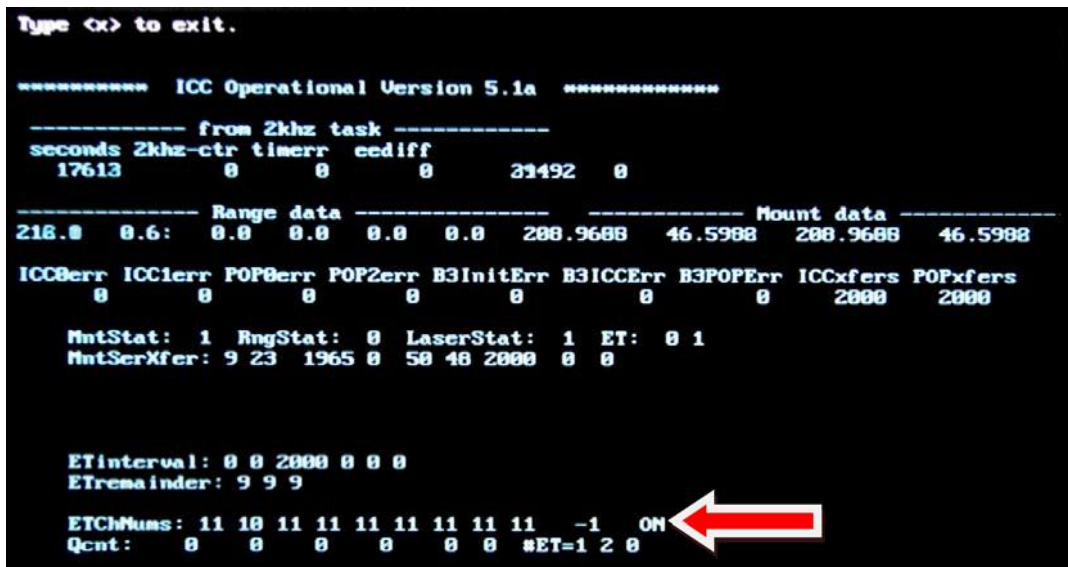

Figure 8-8: Screenshot of the ICC showing that it is sending commands to fire the laser.
6. **Verify that the ICC is not preventing the laser from firing** – Check the ICC screen on the rack console to verify that the ICC is directing the laser to fire as shown on Figure 8-8. The ON indicates that the ICC is sending commands to fire the laser, OFF indicates that the ICC is actively preventing laser fire due to one of the below conditions: